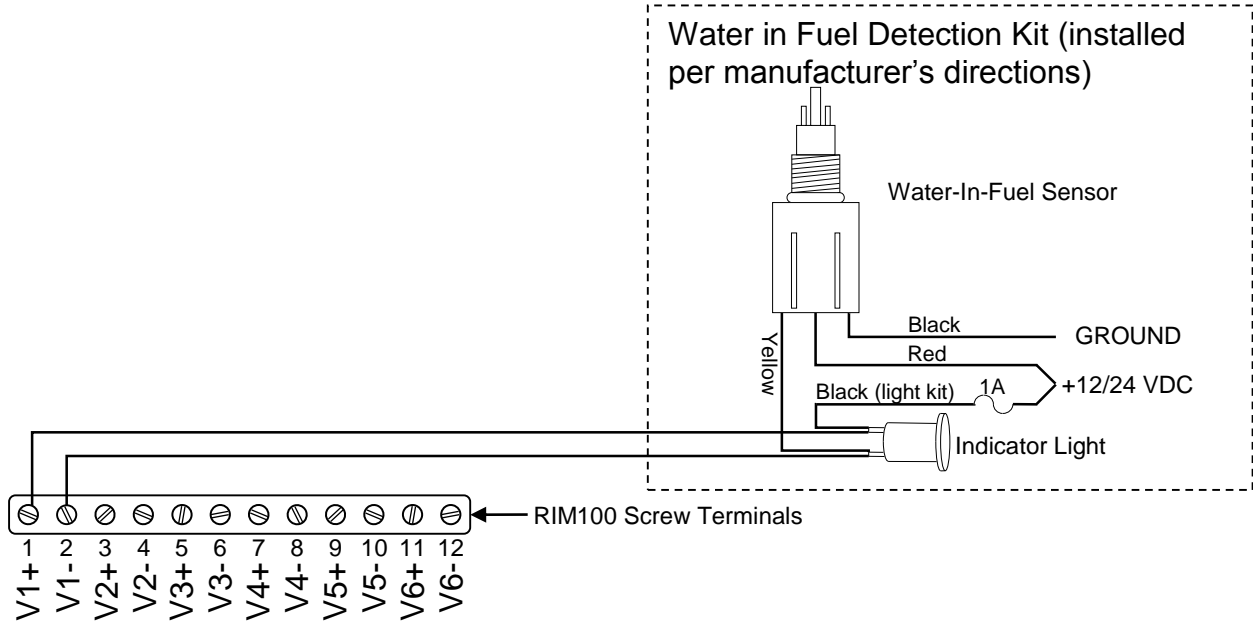

Figure 1 - Wiring Diagram
Please follow these instructions to connect the WIF-RK30880-E to the NMEA 2000 network via a Maretron RIM100 Run Indicator Module. The wiring diagram appears in Figure 1 on the reverse side of this page. The diagram shows a connection to channel #1, but connections to other channels are similar.
- b. the positive terminal on the selected run detection channel on the RIM100.For this example, add a wire between the indicator light terminal connected to the 1A fuse and RIM100 terminal V1+ (Please refer to Figure 1).
- b. the negative terminal on the selected run detection channel on the RIM100.For this example, add a wire between the indicator light terminal connected to the yellow wire coming from the water in fuel detector and RIM100 terminal V1- (Please refer to Figure 1).